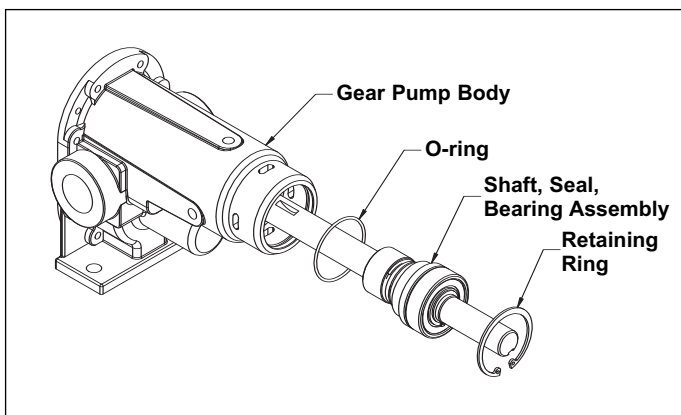
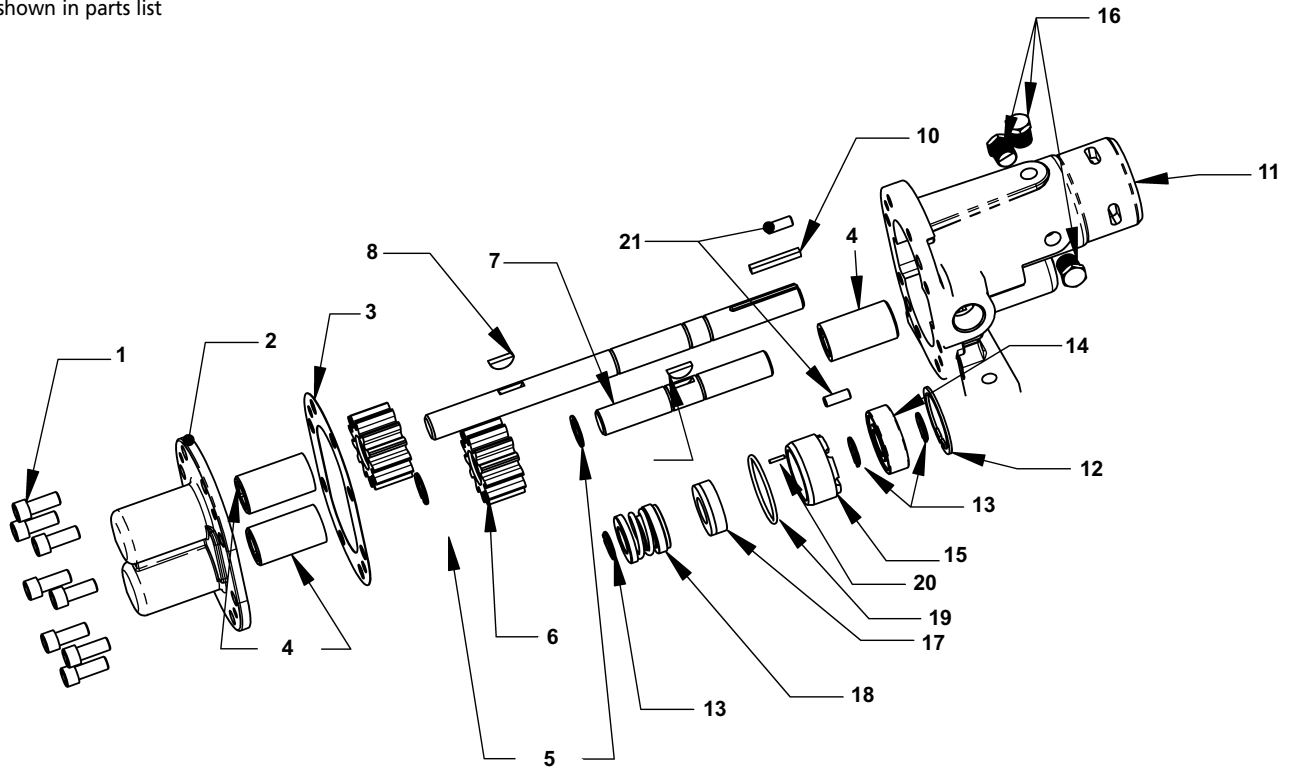

Figure 6 - Shaft, Seal and Bearing Assembly
Figure 11 – Repair Parts Illustration
(Refer to Figure 11 for Reference Numbers and Figures 6, 7, 8 & 9 for detailed seal and shaft assemblies.)
- 2. From the drive shaft end of the gear pump, remove the internal snap ring (Ref. No. 12) from the body (Ref. No. 11). The drive assembly, which consists of the drive shaft (Ref. No. 9), seal assembly (Ref. Nos. 17 & 18), seat retainer (Ref. No. 15), bearing (Ref. No. 14) and retaining rings (Ref. No. 13), can now be removed from the unit (See Figure 6). Also remove the internal o-ring (Ref. No. 19) from the body.
- a. Slide the seal retainer and bearing onto the drive shaft and install retaining ring, holding the bearing and seal onto the shaft (See Figures 6 and 7).
- b. Slide the drive shaft assembly (Ref. Nos. 9, 13, 14, 15, 17 & 18) into the gear pump and secure with the internal retaining ring (Ref. No. 12). (Also see Figure 6.)